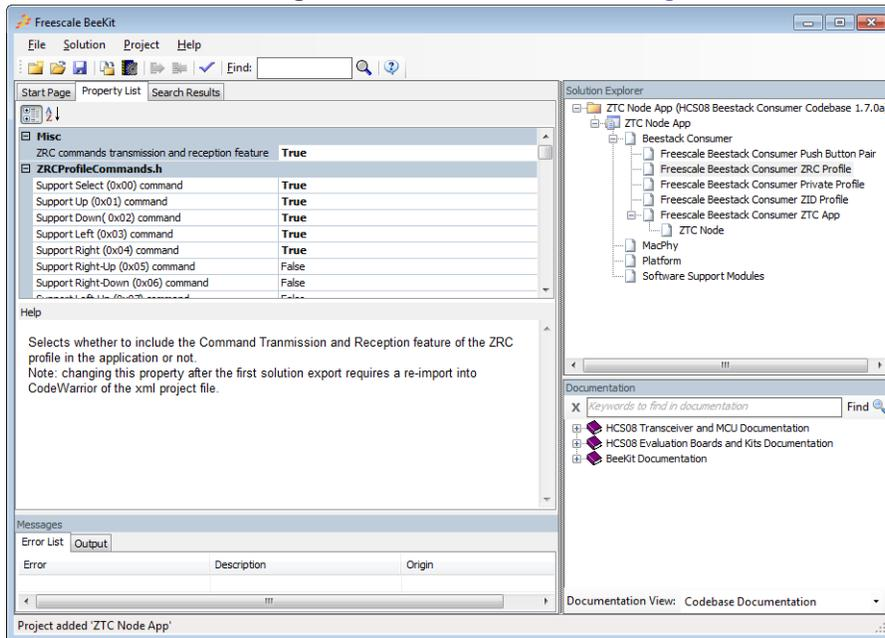

Figure 4-1. Enable the ZRC features
7. Select the “Freescale BeeStack Consumer ZRC Profile” component and enable the ZRC commands transmission and reception features as shown in Figure 4-1.